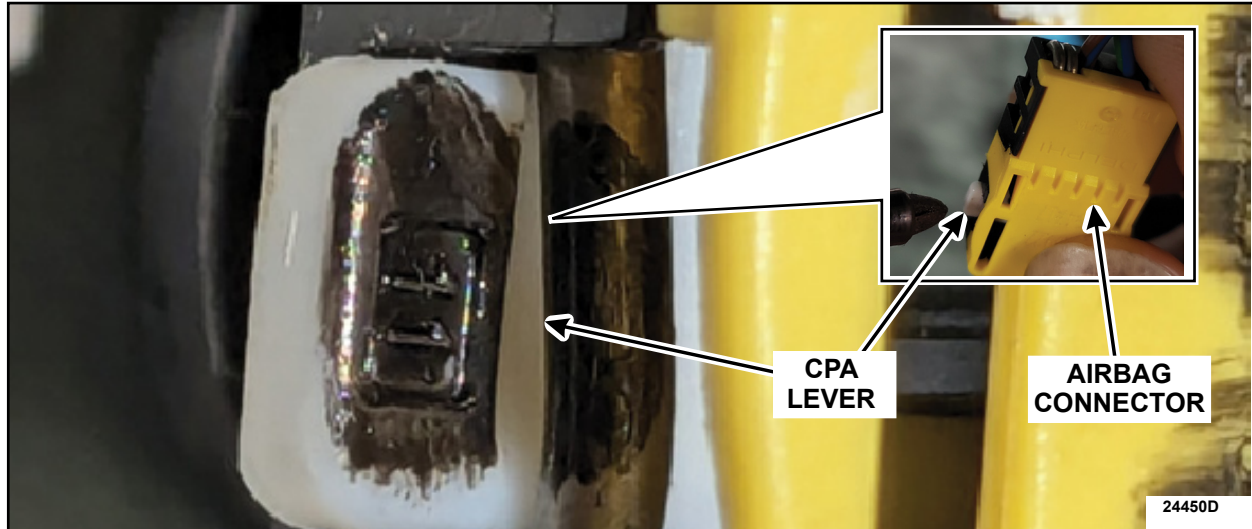

FIGURE 2
5. On the driver knee airbag connector, passenger knee airbag connector and both side curtain airbag electrical connectors carefully mark the Connection Position Assurance (CPA) lever with a black permanent marker. See in Figure 2.